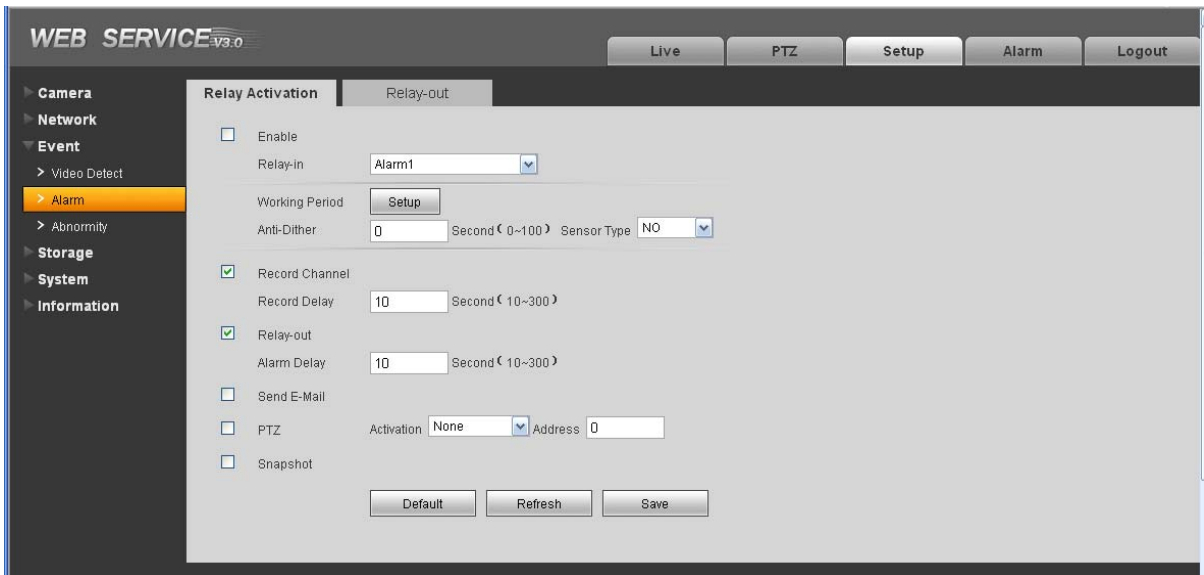

Figure 2-4
The alarm interface is shown as in Figure 2-4. Please follow the steps listed below for local alarm input and output connection.
- 3) Open the Web, go to the Figure 2-4. Please set the alarm input 01 port for the brown-pin (the 1st channel) of I/O port cable. The alarm input 02 is for the grey-pin (the 2nd channel) of I/O port cable. Then you can select the corresponding type (NO/NC.)